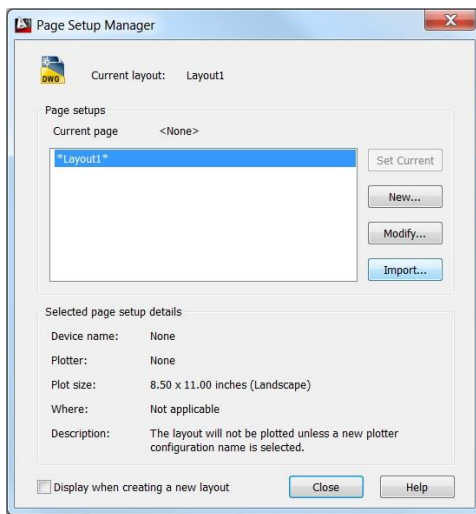

Figure 6 – Page Set Up Manager
2. The "Page Setup Manager" dialog box will pop up (Figure 6). Click **Import**.